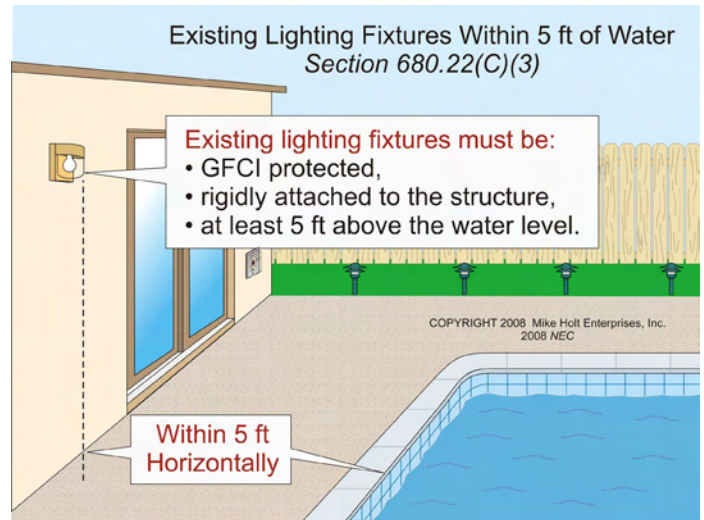

Figure 680-18
(1) New Outdoor Installations. Luminaires and ceiling fans installed above the water, or the area extending within 5 ft horizontally from the inside walls of a permanently installed pool, outdoor spa, or outdoor hot tub, must not be less than 12 ft above the maximum water level.
(3) Existing Installations. Existing luminaires located less than 5 ft horizontally from the inside walls of a permanently installed pool, outdoor spa, or outdoor hot tub must be not less than 5 ft above the surface of the maximum water level and must be GFCI protected. **Figure 680-18**